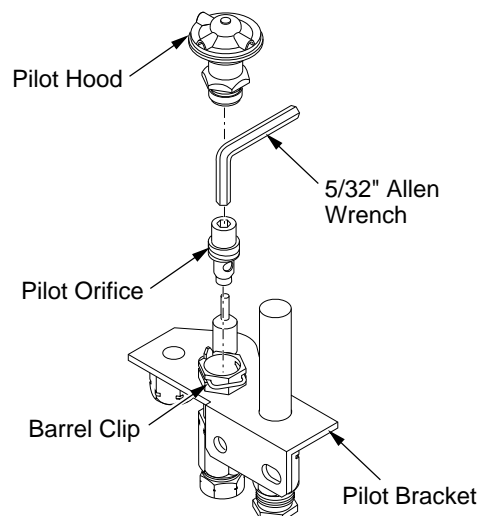

Figure 9 - Converting Pilot Orifice
1. Remove the pilot hood by pulling up until it disengages from the barrel. Do not remove the retainer clip (see Figure 9).